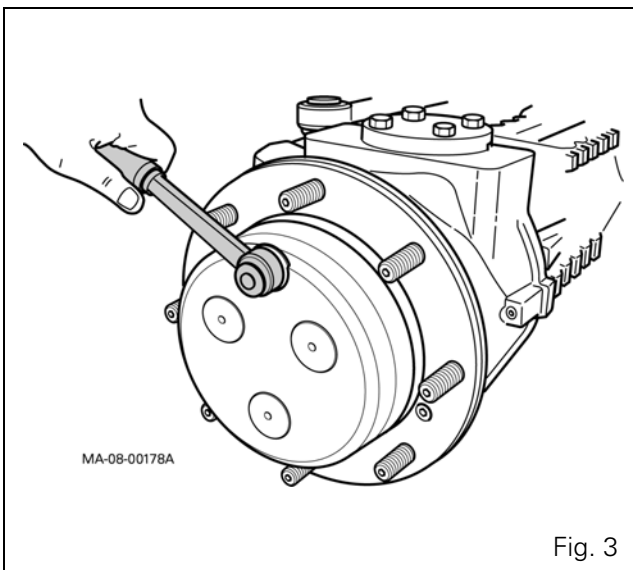

Fig. 3
7. Before draining the oil, position the wheel hub with the plug at its highest point and loosen the plug by several turns to release any internal residual pressure, then loosen it completely (Fig. 3). Turn the hub again to position the plug at its lowest point. Completely drain the oil.